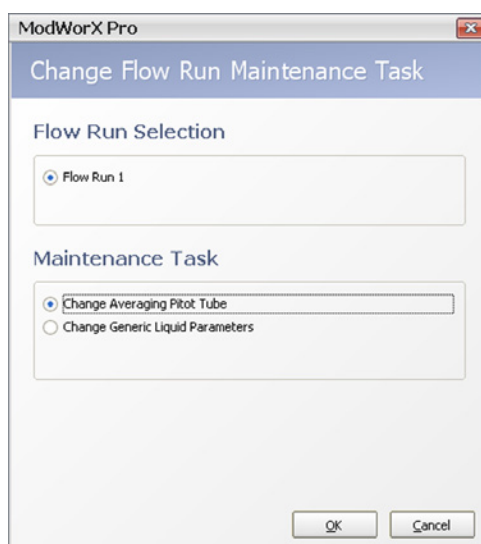

Figure 11.13
1. If Change Generic Liquid Parameters is not displayed in the Maintenance Task field at the top of the Maintain Flow Run screen, click on **Change Task**. The Change Flow Run Maintenance Task dialog will appear (Figure 11.13, page 172).